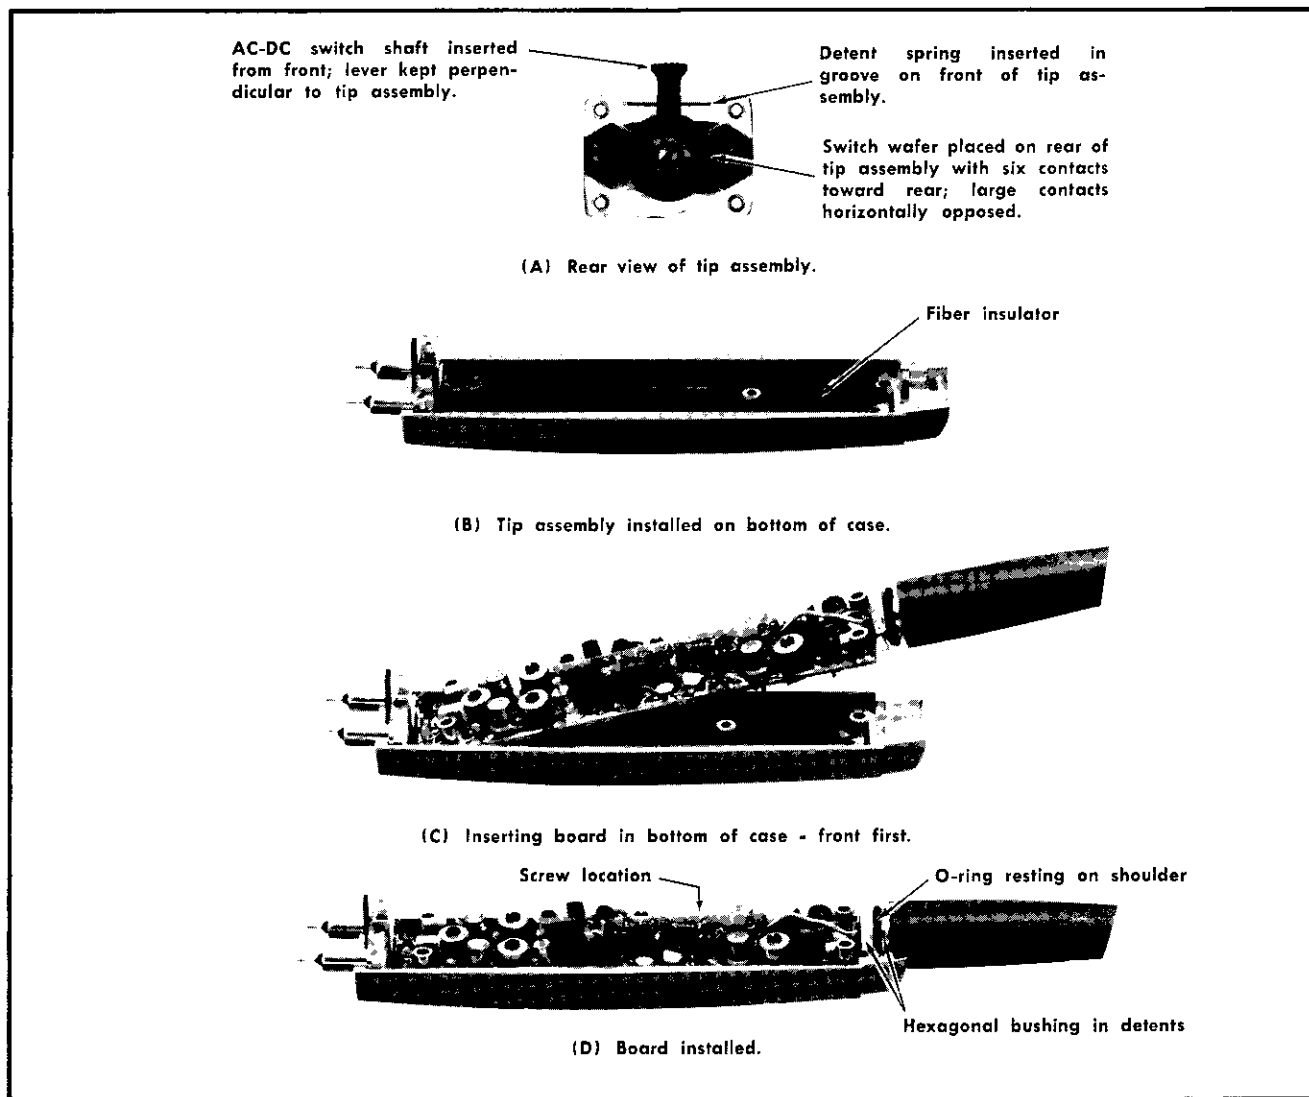

Fig. 4-2. Assembling probe components; see text for complete procedure.
Replacing the Main Board. Put the large fiber insulator in place in the bottom of the case. Insert the board front first into the bottom of the Probe case as shown in Fig. 4-2 (C). Put the rear end of it into place, aligning the neoprene O-ring with the shoulder at the rear of the case. The hexagonal bushing should fit in detents in front of and behind the shoulder. Insert and tighten the short screw near the center of the board. Be careful not to damage the plastic threads. See Fig. 4-2 (D).
Replacement. The tip assembly should be put together as shown in Fig. 4-2 (A) with particular attention being given to the positioning of the AC-DC switch contact assembly and the detent spring. Insert the assembly into the bottom of the Probe case as in Fig. 4-2 (B) before the main circuit board is installed. Keep the AC-DC switch perpendicular to the assembly to keep the detent spring in place. Fasten the two screws to the tip assembly through the front of the probe case.